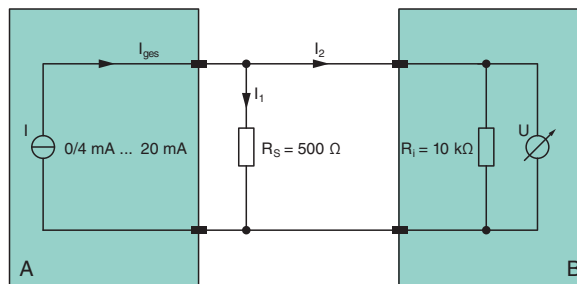

Figure 35 Current/voltage conversion with a measurement resistor
the measured current can be converted into a measured voltage. This is possible in principle, however it leads to transfer errors that have to be corrected by re-scaling the control (B). The problem lies in the input resistor of the voltage input. Thus, the current is divided into 2 partial currents  $I_1$  and  $I_2$ . Figure 35 shows the pattern with an input resistance of 10 k $\Omega$ . The signal current of 20 mA is not converted to 10 V, but simply to about 9.5 V. Rescaling is required in the control (B).